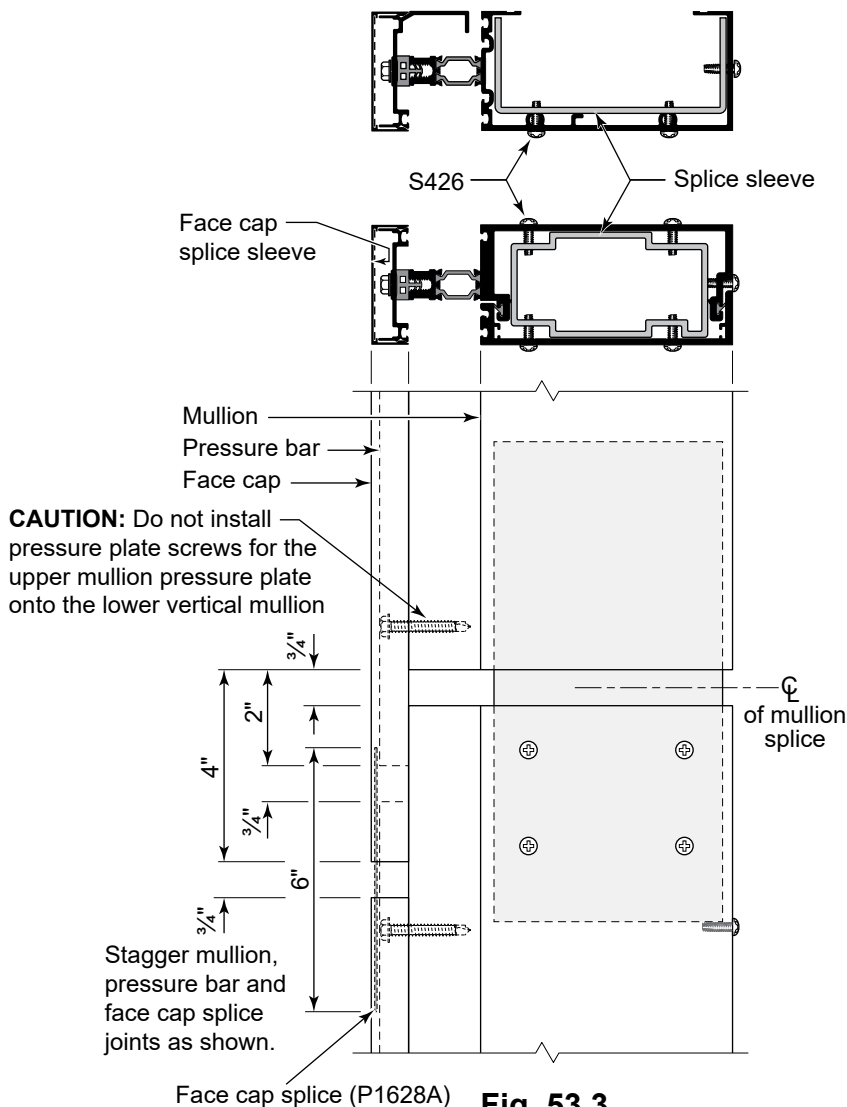

Fig. 53.3
- L. Seal the horizontal pressure plates to the vertical face covers, tooling the sealant into the joint. See **Fig. 53.3** and **Fig. 53.4**.